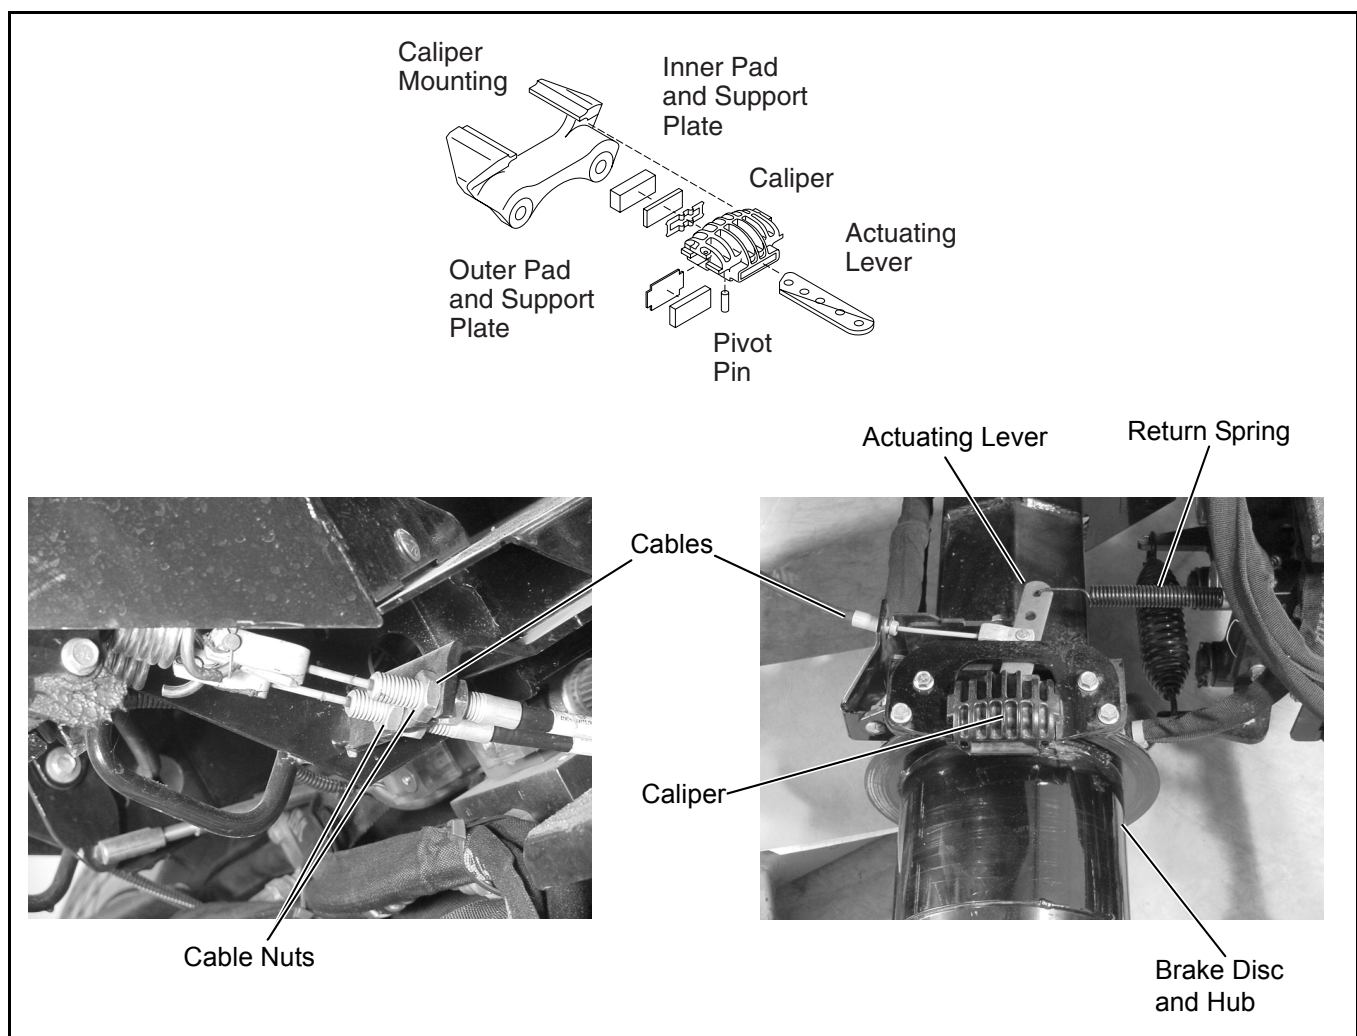

Figure 5C-1. Parking Brake
The brake caliper (Figure 5C-1) contains the brake pads, support plates, spring lever retainer, and actuating lever.
The brake cables (Figure 5C-1) are connected to the brake pedal and the actuating lever. When pushed, the brake pedal pulls on the cables, which pulls the actuating lever. The actuating lever has a cam type lobe, which pushes the inner support plate and pad against the brake disc, stopping the tractor.
3. Remove the return spring (Figure 5C-2).